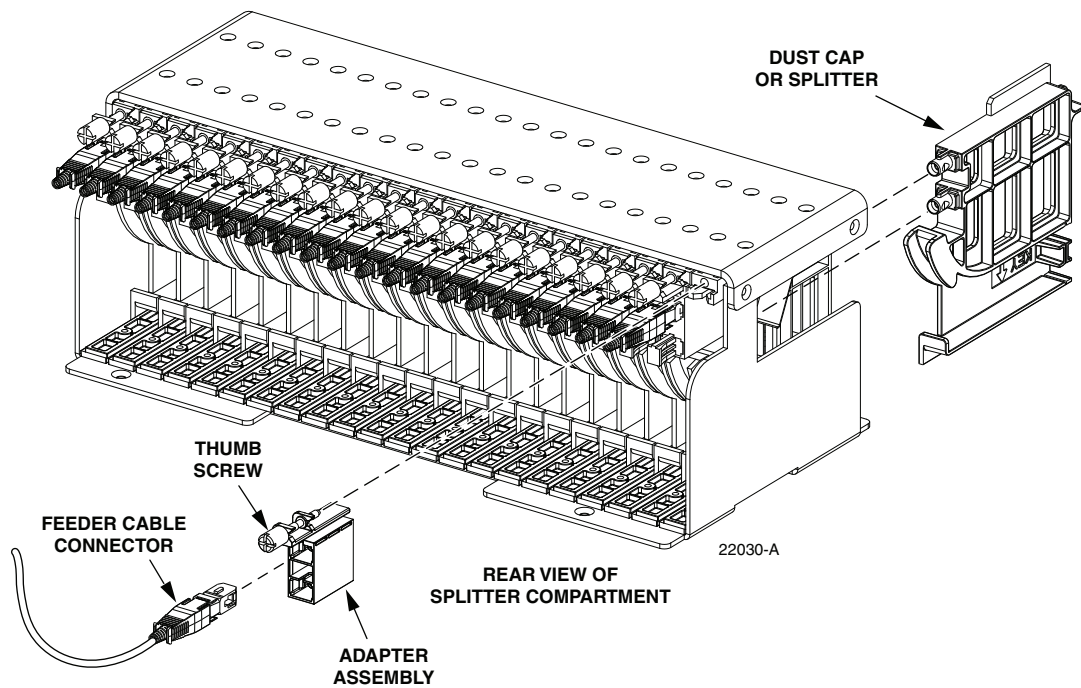

Figure 80. Splitter Compartment Adapter Replacement
3. Remove the feeder cable connector(s) from the rear side of the broken adapter assembly as shown in Figure 80 and install a dust cap on the connector(s).